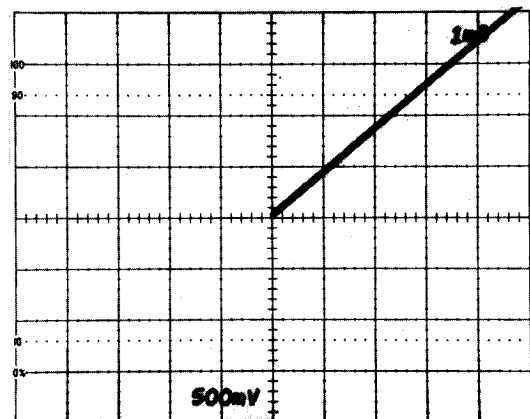

Fig. 4-1. Typical display for adjustment of Dly'd Swp Baseline (R452).
d. Connect a 10X probe from the 7A15A Input to (TP) 462.
g. ADJUST—R452, Dly'd Swp Baseline, to start display at CRT center (see Fig. 4-1).